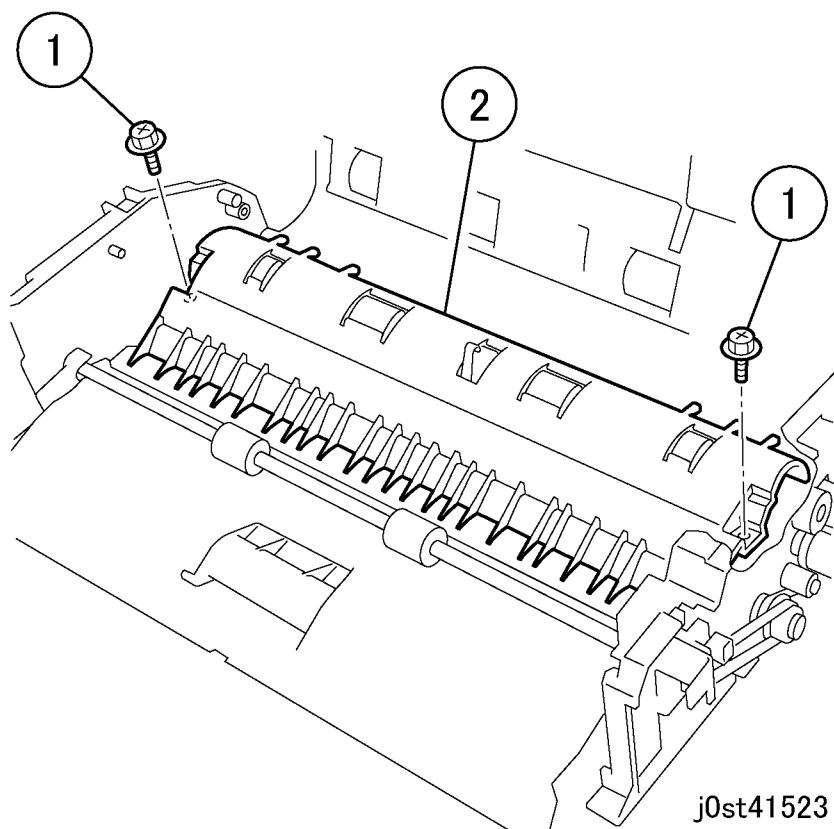

Figure 3 Removing the Feed Guide
9. Remove the Feed Guide (Figure 3).